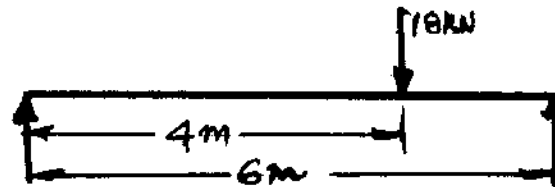

Fig. Q7 (b)
- b. A simply supported beam of 6 meters is subjected to a concentrated load of 18 kN at 4 meters from left hand support as shown in Fig. Q7 (b). Calculate position and magnitude of maximum deflection if $E = 200 \text{ GPa}$ and $I = 30 \times 10^6 \text{ mm}^4$. (15 Marks)